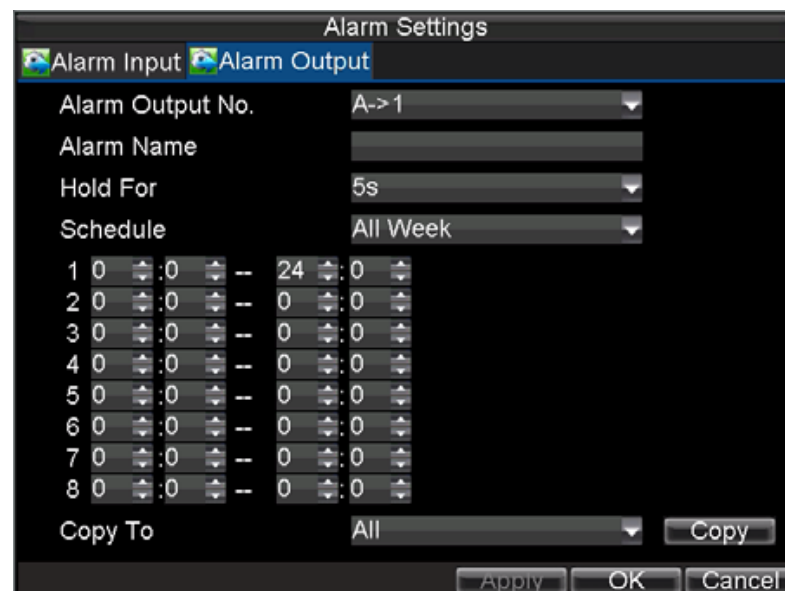

Figure 9.12. Alarm Output Settings
- 2) Select the output you would like to configure and click the *Set* button. This will bring up the settings page for the selected channel (Figure 9.12).